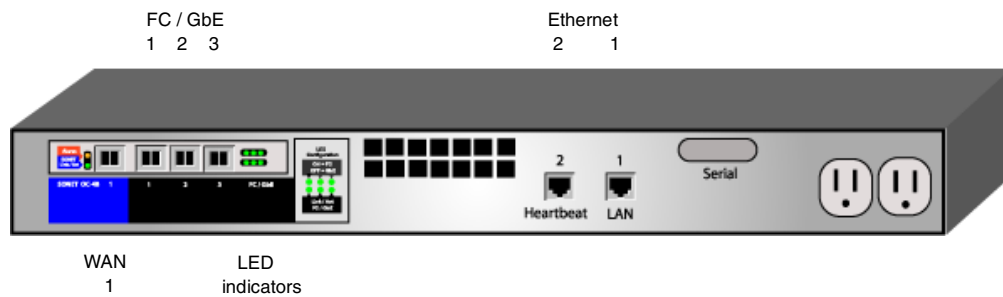

Figure 2-1: S-2500B Back Panel
1. Attach a crossover DB-9 (RS-232c) serial cable to the serial port on the back panel of the *S-2500B Gateway*. (See Figure 2-1 : S-2500B Back Panel to identify the serial port).